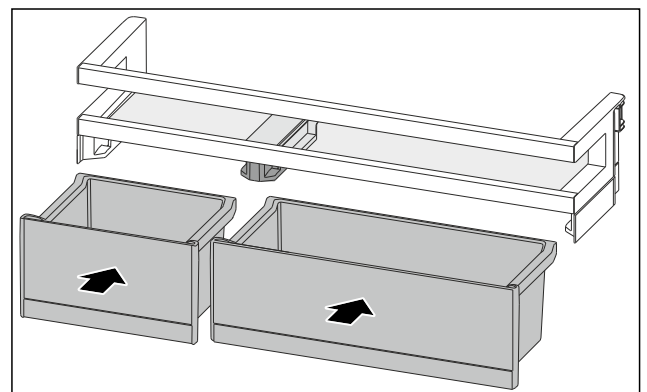

Fig. 117
- ▶ Insert the VarioBoxes in reverse order. (see Fig. 117)